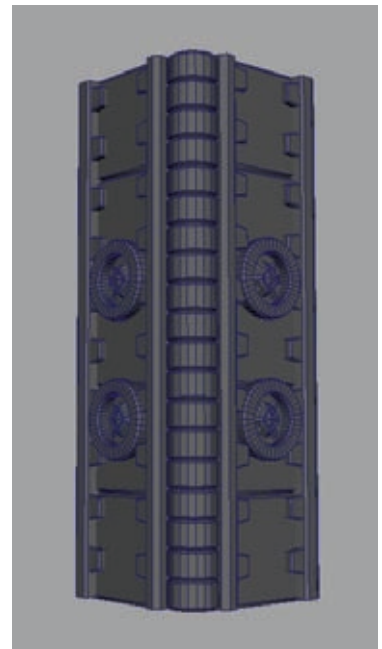

Figure 5.17
19. Once you've added all the details you want, you can duplicate and mirror one side of the column for the other and you'll have your completed column module (Figure 5.17).